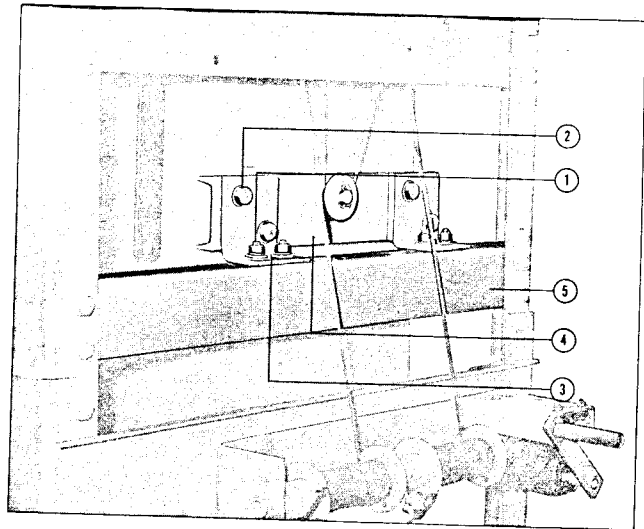

Fig. 3. PRCB 8000 Oil Tank Mounting
(1) PRCB 8000
To remove high current interruption shock strain from the top casting, the oil tank supports the switch in the mounting frame. The mounting brackets (Figure 3, Item 3) are attached to the oil tank channel (4) and mounting frame (5).
(2) PRC and PRCB 4000